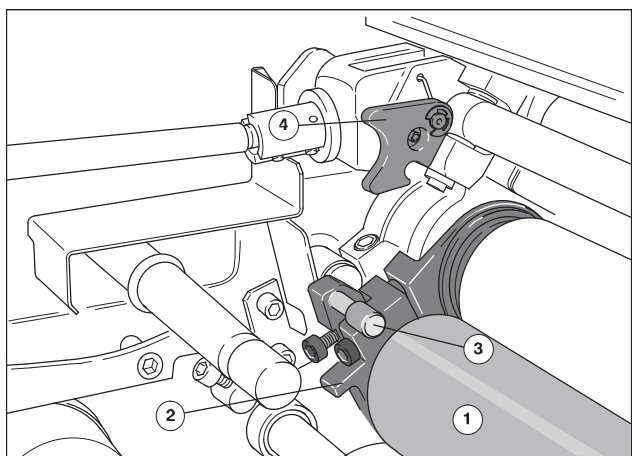

Fig. 14 Dampening distributor in washing position
2. **After ending the washup procedure**, lift the dampening roller (Fig. 14/1) at the cam plates (Fig. 14/2) on the bearing cap on both sides.
3. Let the bolts (Fig. 14/3) on D.S. and O.S. at the lever (Fig. 14/4) engage.